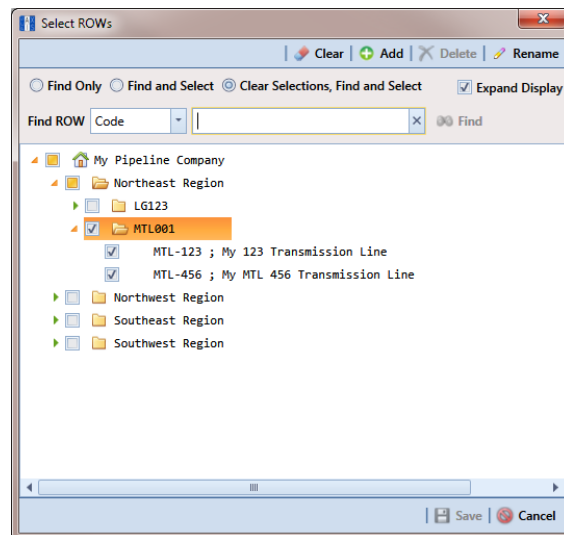

Figure 10-25. Select ROWs
- 1 Select one or more pipeline segments in the *Select ROWs* window. Select pipeline segment(s) with facilities you want to include in the Bridge definition. Click  **Save** to close the window (Figure 10-25).